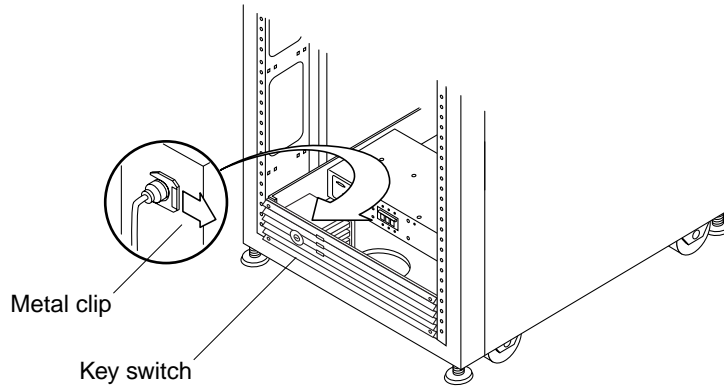

FIGURE 10-4 Removing and Replacing the Key Switch
2. **Facing the back of the key switch on the inside of the storage system, use a pair of needle-nose pliers to slide out and remove the metal clip that secures the key switch to the storage system (FIGURE 10-4).**
2. Facing the back of the key switch on the inside of the storage system, slide the metal clip onto the notch of the key switch body to secure it in place (FIGURE 10-4). Each screw secures a clamp on the frame that holds the cable in place.